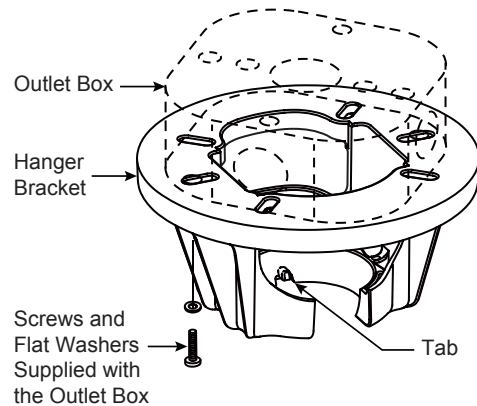
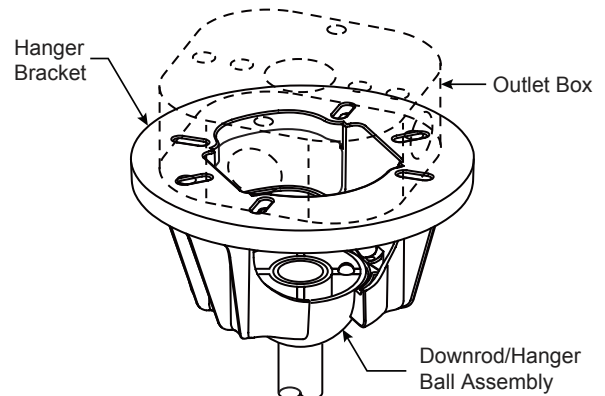

Figure 3
Figure 4
- 4. Slide downrod into the downrod support on top of the motor. Install the clevis pin by aligning the holes in the downrod support with holes in the downrod. Secure clevis pin with hairpin clip. Install and tighten the two set screws with nuts in the downrod support. Securely tighten the set screws with screwdriver then fully tighten the nuts by hex wrench. (Figure 4)
1. Securely attach the hanger bracket to the outlet box using the outlet box screws and washers supplied with the outlet box. (Figure 3)
**NOTE:** Outlet box screws pass through slotted holes of the hanger bracket. (Figure 3)
3. Carefully lift the fan and seat the downrod/hanger ball assembly onto the hanger bracket that was just attached to the outlet box. (Figure 4) Be sure the groove in the ball is lined up with tab on the hanger bracket. (Figure 3)
2. Slide the receiver into the hanger bracket before wiring as shown in figure 3.
3. Connect wires using connectors as shown in Figure 4. Connect the 2 pin connectors from the motor assembly to the 2 pin connectors from receiver, connect the 3 pin connectors from the motor assembly to the 3 pin connectors from receiver.
4. **If installing the light kit, skip this step.** Assemble the light kit wire cover to the switch housing assembly using the removed screws in step 3 and secure all three screws. (Figure 4)
- 4. If you need to replace the batteries. Remove the battery cover from remote control by screwdriver and retain the screw for later. (Figure 4)